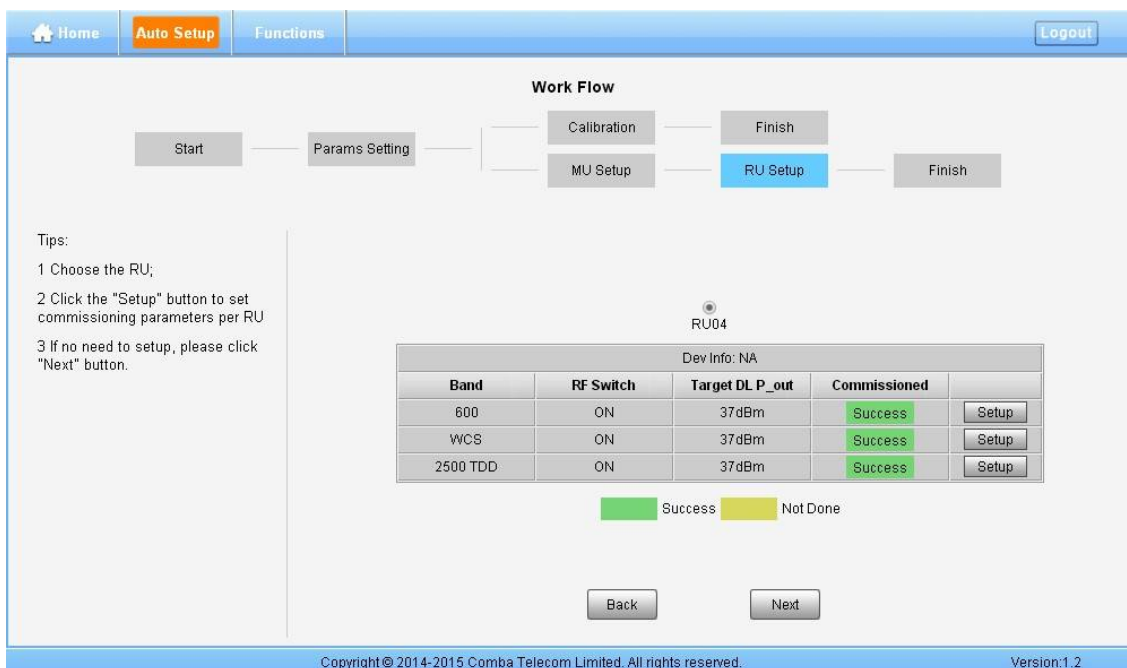

Figure 72: Commissioning Procedure – RU Setup
Step 8: After Calibration is finished, go to MU Setup as in Figure 72, then RU Setup shown in Figure 73